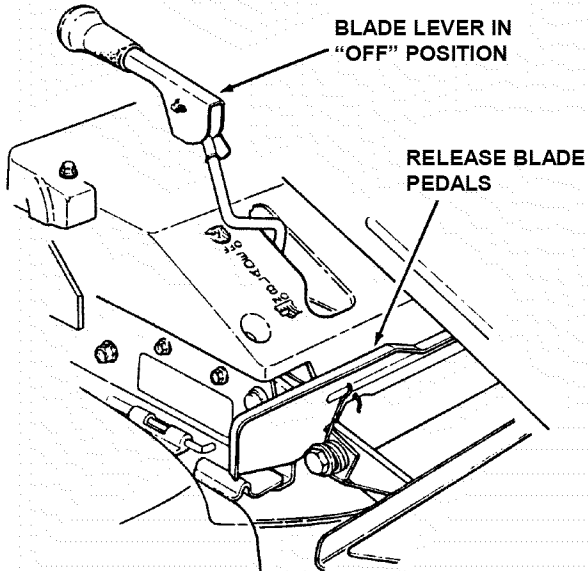
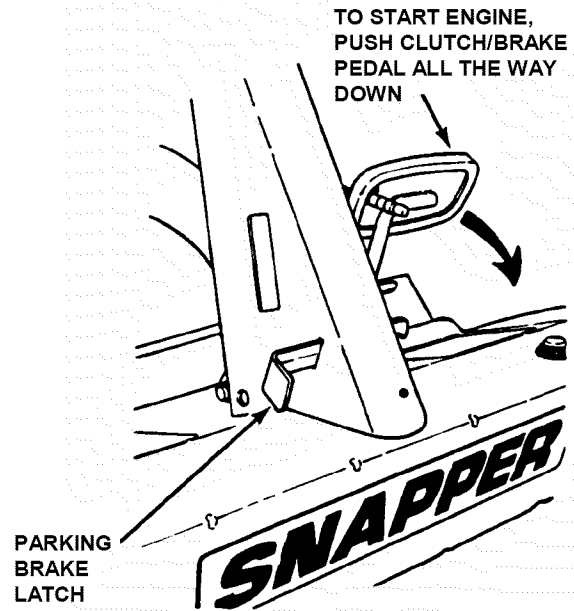
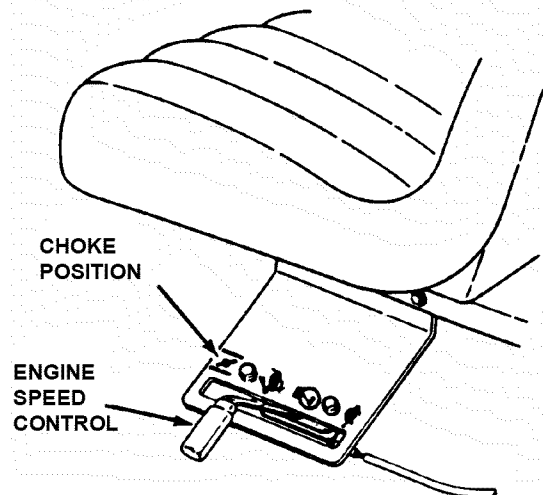
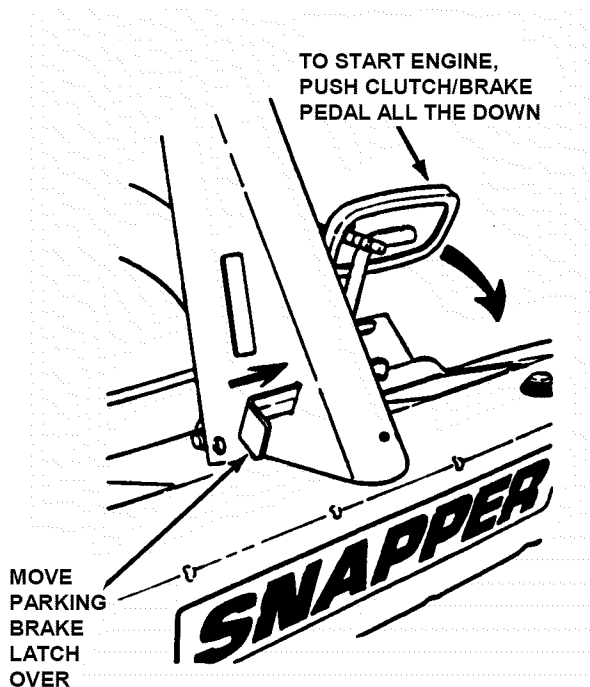

FIGURE 2.4
FIGURE 2.5
FIGURE 2.6
FIGURE 2.8
**IMPORTANT:** When the ignition key is turned to "START", the engine will turn over, but will not start unless the Clutch/Brake pedal is pressed all the way down, the Blade Lever is in the "OFF" position (See Figure 2.5). The operator should be in the seat. Start engine as follows:
1. Move transmission shift lever to (N) Neutral position. **DO NOT** start engine with transmission shift lever in a drive position.
2. Make certain the Blade Lever is in the "OFF" position. See Figure 2.4.
3. Press Clutch/Brake Pedal all the way down and hold while starting engine. See Figure 2.5.
5. Move engine speed control to the choke position. See Figure 2.6.
**IMPORTANT:** When the ignition key is turned to "ON", and the recoil handle is pulled, the engine will turn over, but will not start unless the Clutch/Brake Pedal is pressed all the way down with Parking Brake engaged (See Figure 2.8) and the Blade Lever is in the "Off" position (See Figure 2.4). Start engine as follows:
5. Move engine speed control to the choke position to start a cold engine. See Figure 2.6.
3. Press Clutch/Brake Pedal all the way down, move Parking Brake Latch over and release the Clutch/Brake Pedal to set Parking Brake. See Figure 2.8.